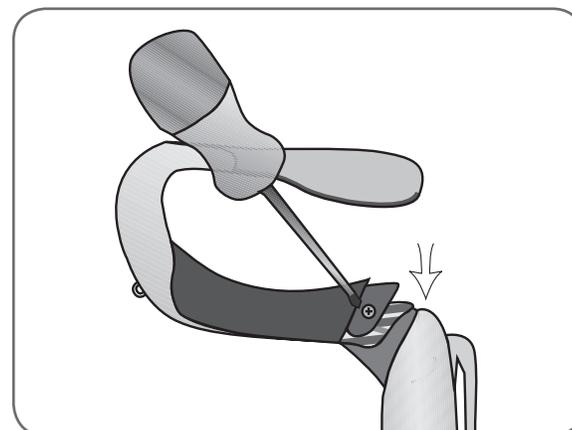

Figure 6-7: Tightening the wrist insert screw.
6. Insert the wrist insert screw into the screw holes, and tighten the screw. See Figure 6-7.